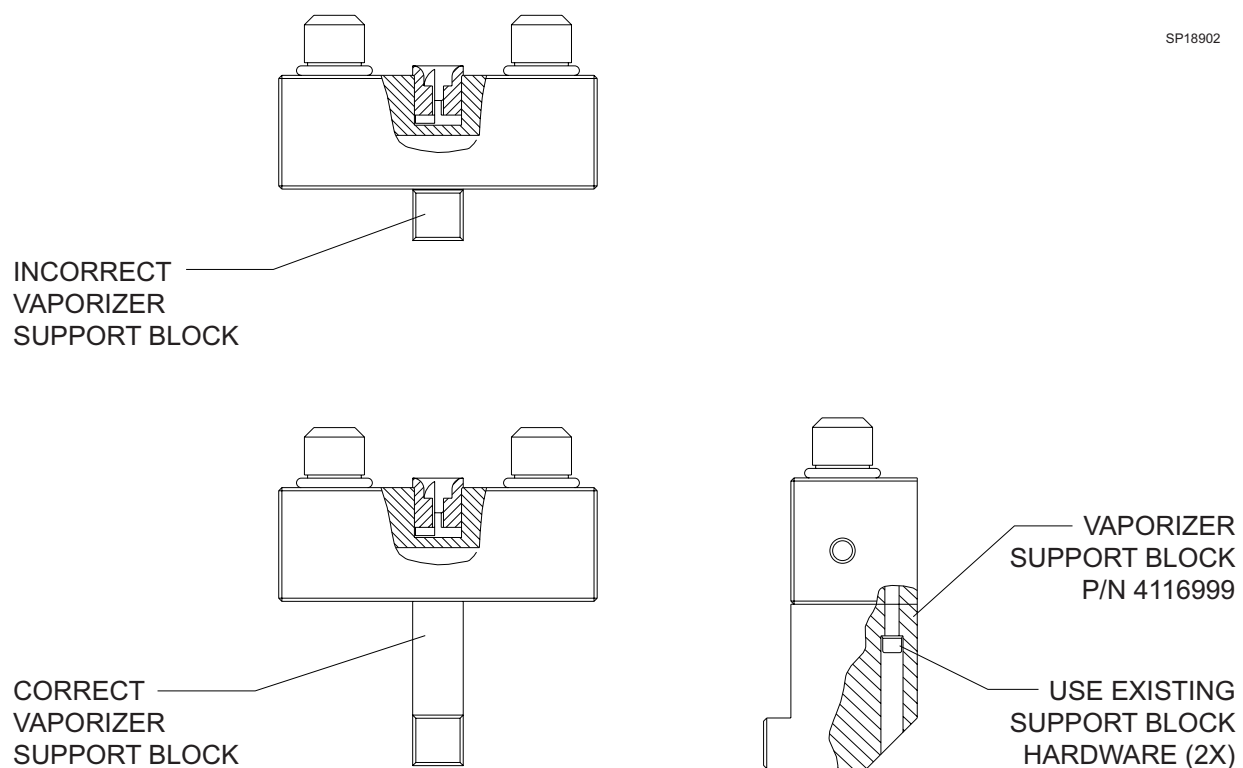

FIGURE 2. Vaporizer Support Block (NM Mobile and Fabius only)
2.3 Verify the correct vaporizer support block is installed on the vaporizer mount. See Figure 2.
- 2.4 If applicable, remove the original vaporizer support block and install the appropriate vaporizer support block using the original hardware as shown in Figure 2.